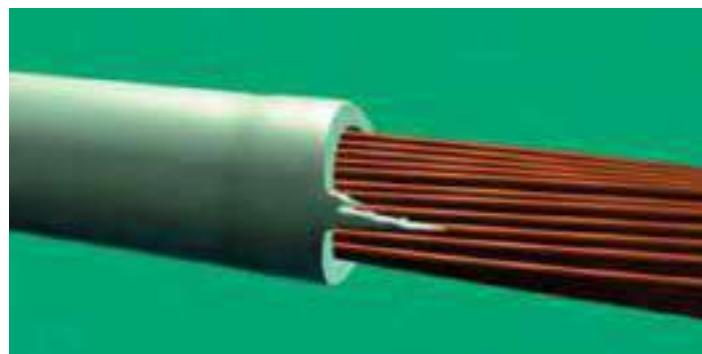

Figure 13
b. Any uneven, ragged pieces (frays, tails, tags) (Figure 13) are no greater than 50% of the wire diameter or 0.039 inch (1 mm), whichever is greater.